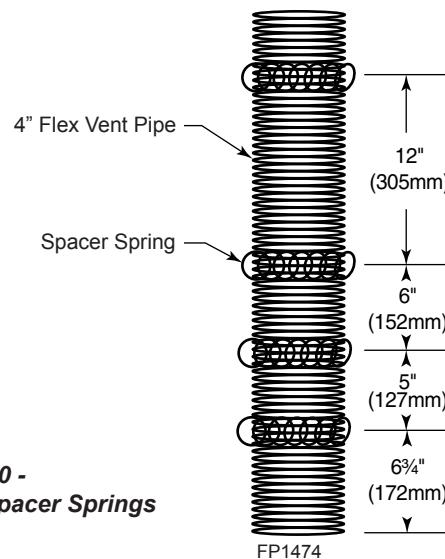

Figure 30 -
Install the four (4) spacer springs on the 4" flex vent pipe. When installing the spacer springs around the 4" pipe, stretch the spring to approximately 15" (381 mm), wrap the spring around the pipe and interlock the ends of the spacer spring approximately 2" (51 mm). Measure 6 $\frac{3}{4}$ " (172 mm) from the end of the pipe. Place the next spring 5" (127 mm) from the previously installed spring. Place the next spring 6" (152 mm) from the last spring. Finally place the last spring 12" (305 mm) from the last spring installed. *Figure 30*